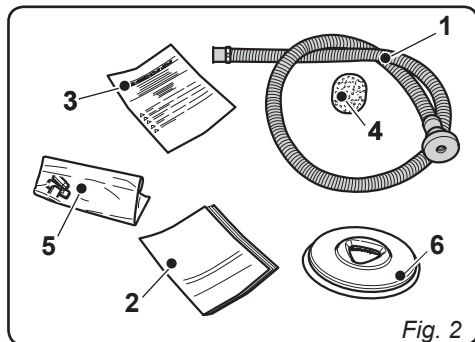

Fig. 2
- Remove the pack (1) containing the accessories supplied.
2.1.a - Standard machine equipment (Fig. 2)